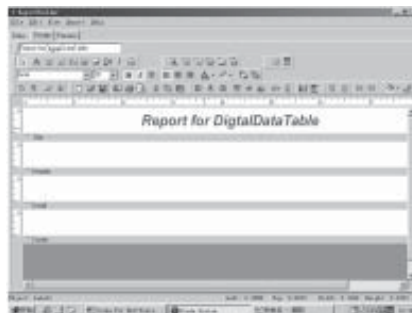

Fig. 8-13 Design the Title of the Report
3.1 Title: For example, as in Fig. 8-13, set the title of the report as **Report for DigitalDataTable**.